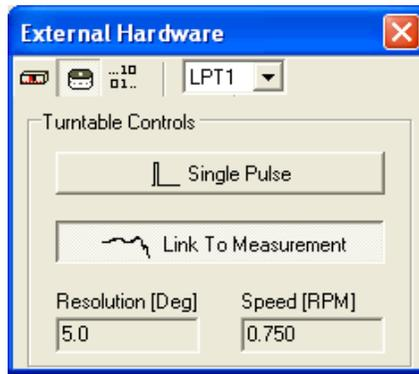

Figure 12.12
3) Recall the turntable control dialog (Fig.12.12), set Resolution at 5°, Speed at 0.75 RPM and press Link To Measurement